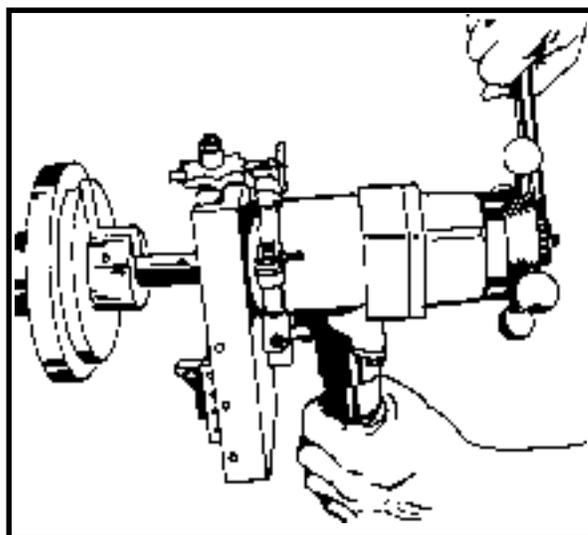

Figure 22
6. Insert the machine and Mandrel in flange face. Supporting the machine, press the alignment fixture tightly against the Flange Face. Tighten the draw bar nut with the supplied hex wrench (Figure 22).